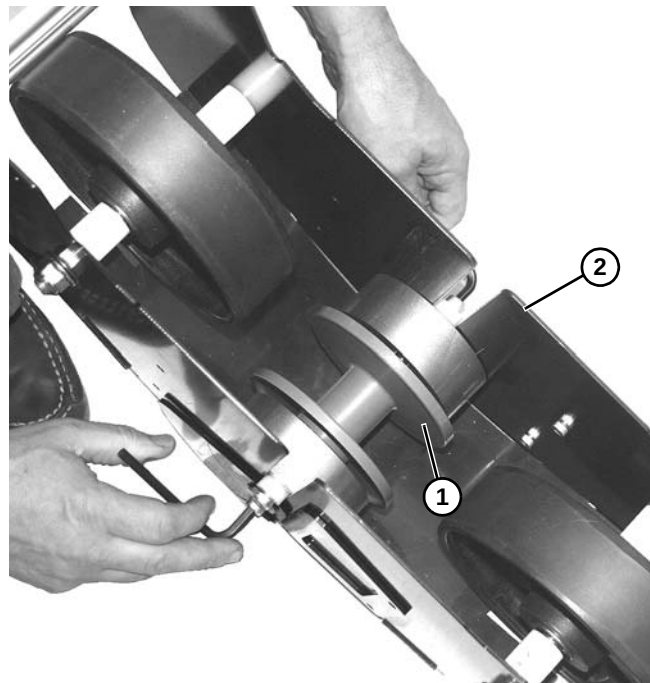

Figure 101
11. Install idler pulley assembly (**Figure 101, item 1**) onto weighted take up assembly (**Figure 101, item 2**).